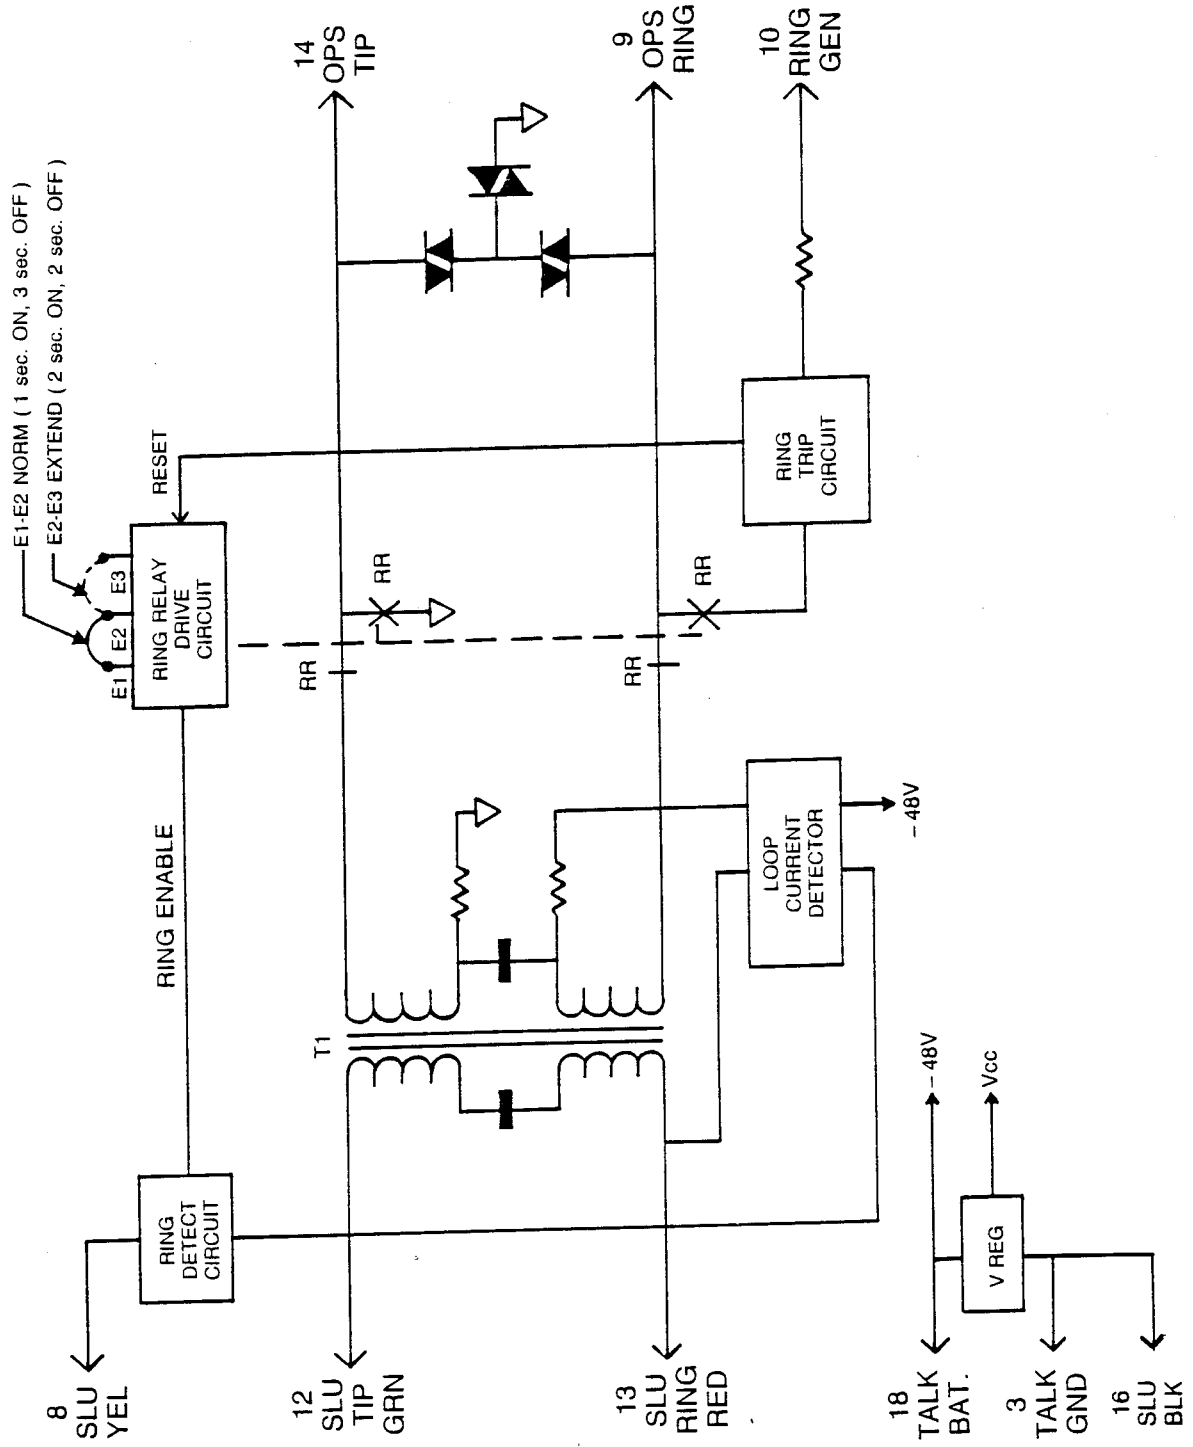

Figure 13 B-OPX-A PCB SCHEMATIC
5.04 When the OPX station goes off-hook, a DC current of at least 20ma flows through the battery-feed coil (T1) and the two resistors (Figure 13). This current is detected by the Loop-Current Detector. This detector closes a DC path across SLU Tip and SLU Ring. Current flows through this path and an off-hook condition is detected on the SLU card. TCX-128 ICM dial tone is heard at the OPX station.